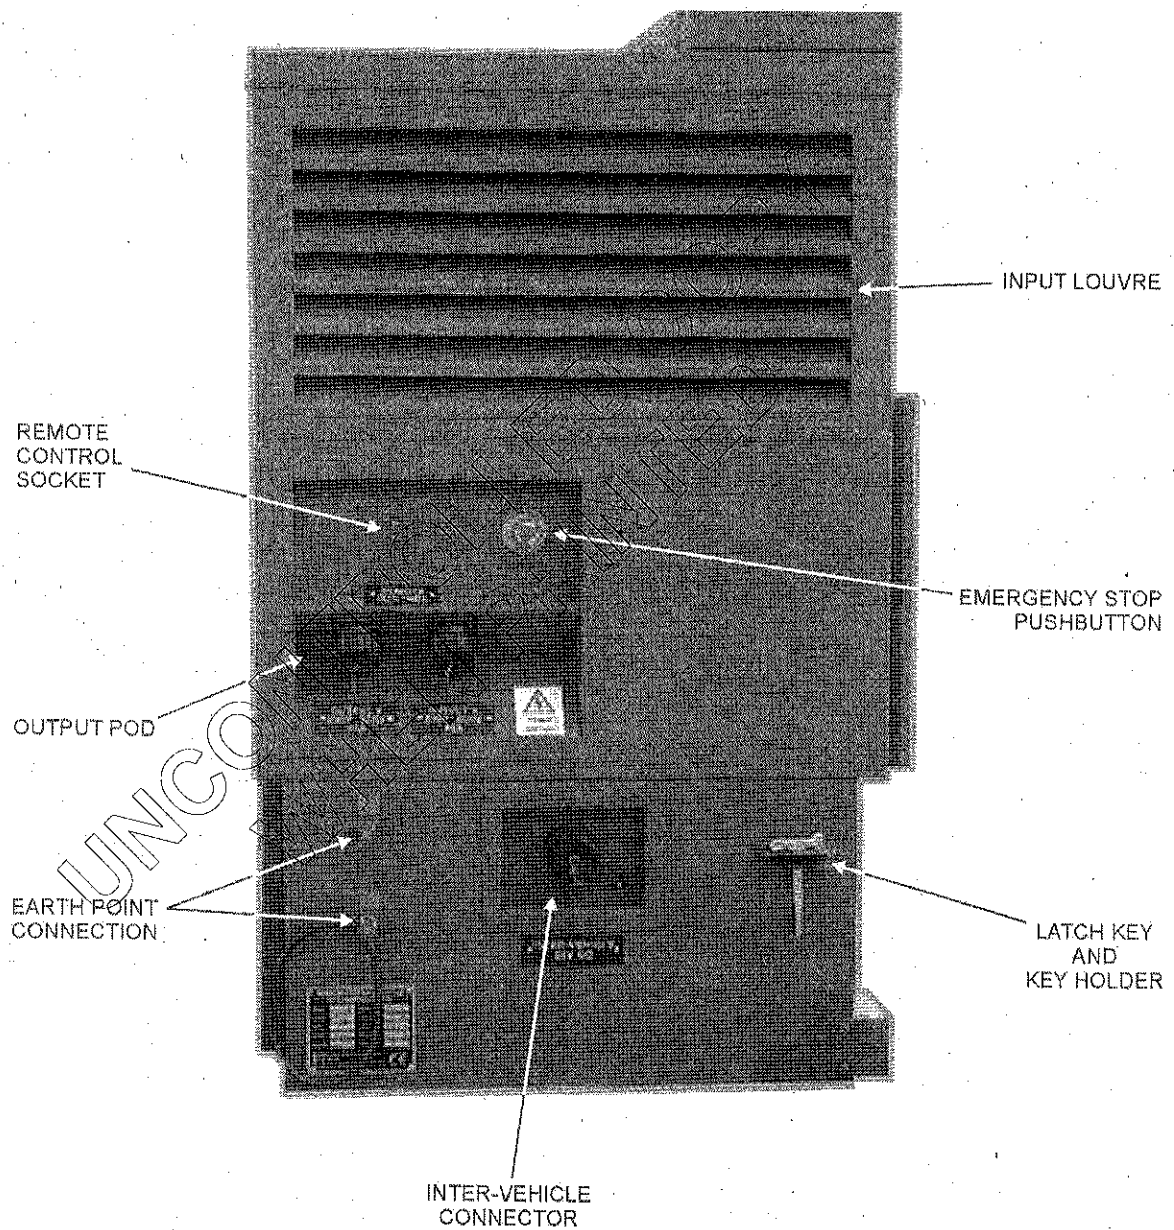

Fig 4 View on output panel end
- (5) Check the coolant level in the expansion bottle (Fig 3). Coolant may be added to the expansion bottle (only if there is already water in the bottle) or via the radiator filler cap (Sub-cat 5.3, Fig 4). Add coolant as necessary so that the level touches the bottom of the radiator filler neck. Use 50% ethylene glycol and water mixture with supplemental coolant additives. (Refer also to Annex A, Para 37.)
- (6) Check that the canopy inlet and outlet louvres are not blocked. Brush away any heavy sand or dust deposits that have collected at the bottom of the louvres.
- (7) Squeeze the dust unloader valve on the engine air cleaner to remove dust deposits. If clogged, remove and clean the dust unloader valve. Replace if damaged.
- (8) When operating in extremely dusty/sandy conditions, check the air restriction indicator. If this shows restriction in the air intake system, remove and inspect the primary air cleaner element. Service as necessary. (Refer also to the Engine Instruction Manual at Annex A, Para 108.)